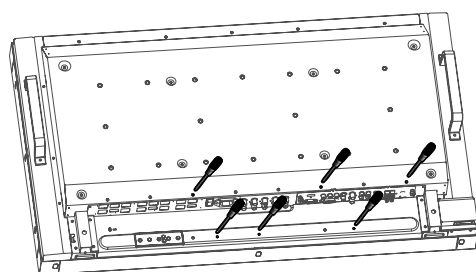

Figure 4
- Retirez les six vis (Figure 4).